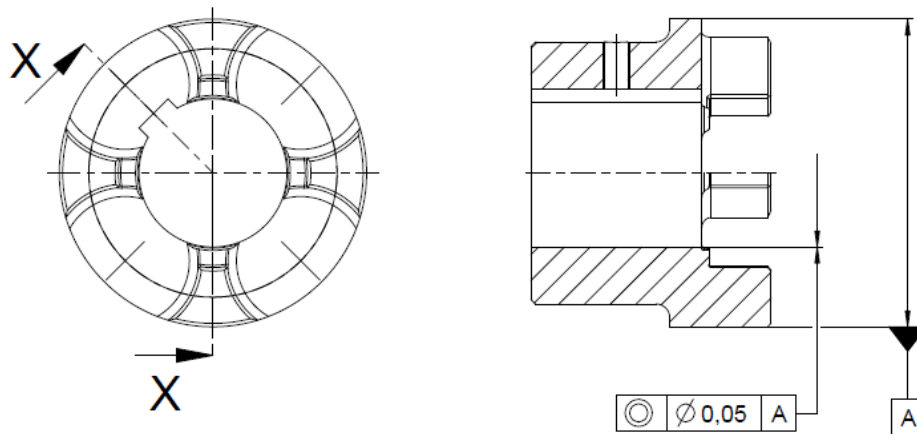

Figure 7.3: Specifications for the form and positional tolerance of the bore and position of the keyway nut
- the form and positional tolerances in accordance with DIN ISO 286 are adhered to (see figure 7.3).
If the hub is to be designed with a keyway, it is preferably to be introduced between the jaws as in figure 7.3. The design and inspection of the keyway connection falls to the operator and is his responsibility.